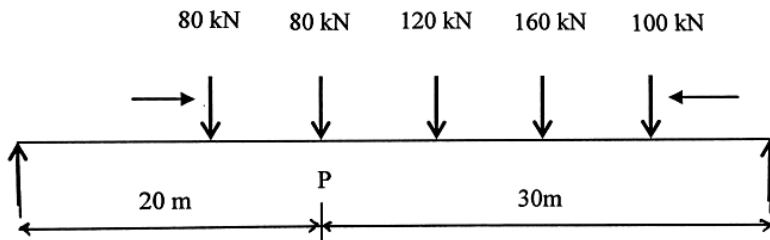

Fig.6
Q.8 For the span shown in figure 6, obtain bending moment at section P, 20m from A due to loads in the position indicated. Also determine position and value of maximum bending moment. 15
Q.7 A train of a wheel load as shown in fig.6 crosses a simply supported beam of span 40m from left to right with point loading. Using influence line diagram, determine the maximum bending moment under central load.